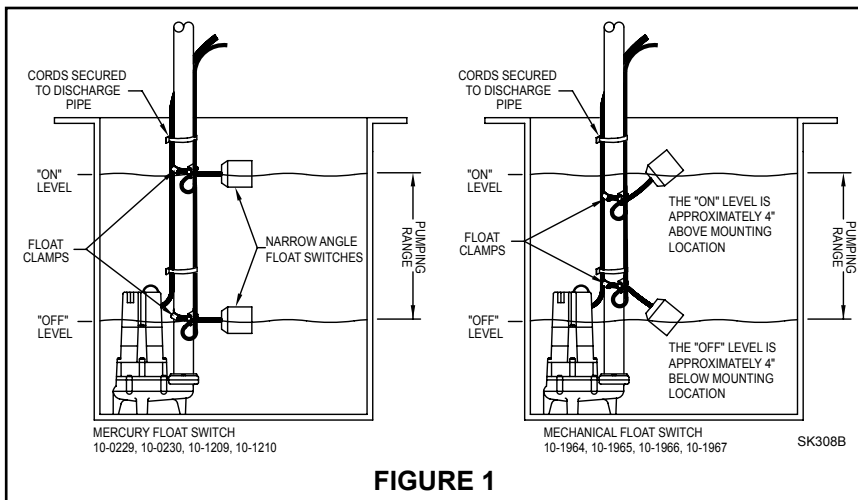
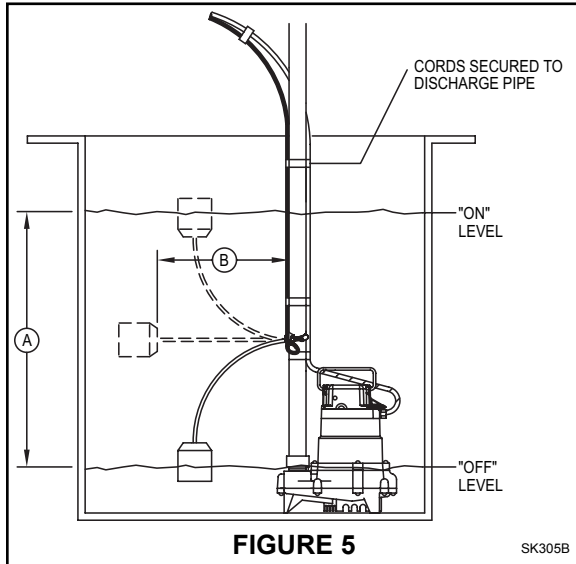
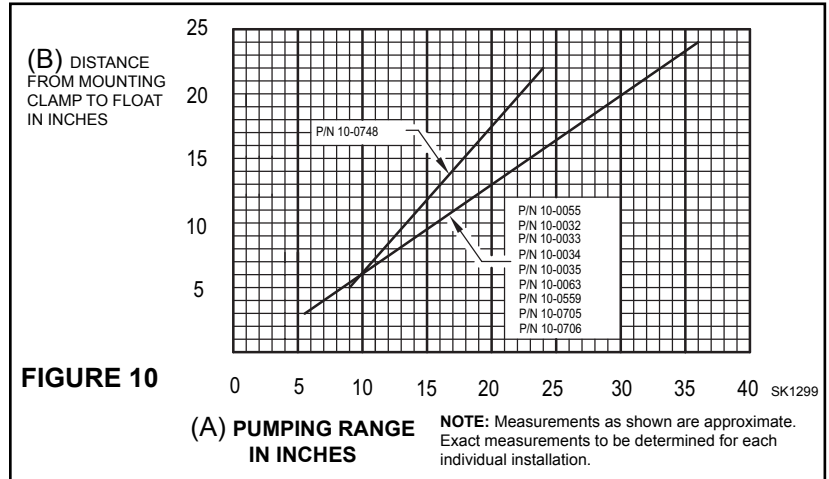
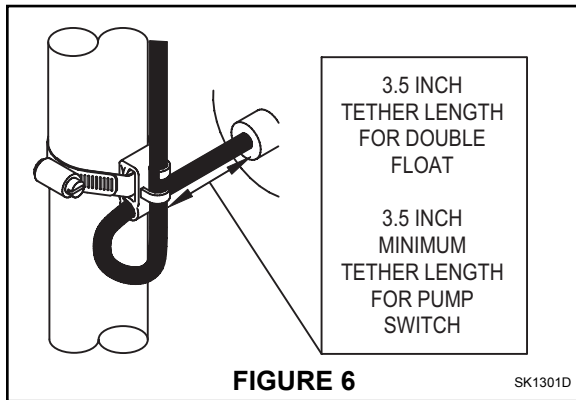

FIGURE 1
FIGURE 5
FIGURE 10
FIGURE 6
- Decide the desired pumping range for your installation. (See Fig. 1.) Secure the float cable clamps to the discharge pipe at the distance you desire. (See clamp detail in Fig. 6 on next page). The float labeled "TOP" must be on top. (The cable clamps are releasable, which permits readjustment and removal.) **NOTICE: Do not adjust "Off" Level below discharge on pump.**
- Securely tape or clamp both piggyback switch cord and pump cord to the discharge pipe, clear of float operation. (See Fig. 1.) Excess cord should be coiled and fastened to the discharge pipe.
1. Decide the desired pumping range for your installation instruction. (See Fig.5 and Figure 10.) (B) is the distance between the mounting point of attachment and the float. The distance (B), determines (A), the desired pumping range.
2. At Distance (B), determined from Figure 10) place the cord into the clamp as shown in Fig. 6.
3. Position the float to the desired "OFF" level and secure the clamp to the discharge pipe as shown in Fig.6. See Fig. 5 noting water line. **NOTE:** Do not install cord under hose clamp.
6. Tape or clamp both piggyback switch and pump cords to the discharge pipe, clear of float operation. (See Fig. 5.) Excess cord should be coiled and fastened outside the basin.